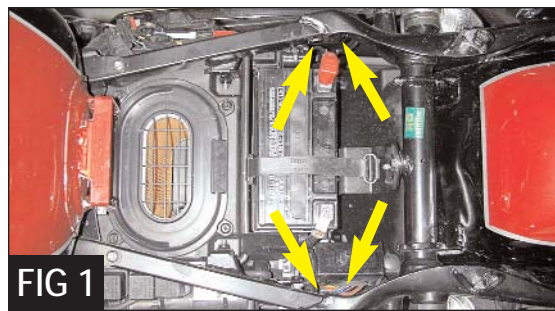

FIG 1
- Locate the holes in your bikes frame (*Figure 1*).
- Install the Corbin bracket #A01012 in the location in Figure 1 and secure with the supplied m8 x 20mm hex head bolts and flat washers on the inside of the frame and the supplied m6 x 30mm hex head bolts and chrome flat washers on the outside of the frame (*Figure 2*). Tighten to 6 ft. lbs.